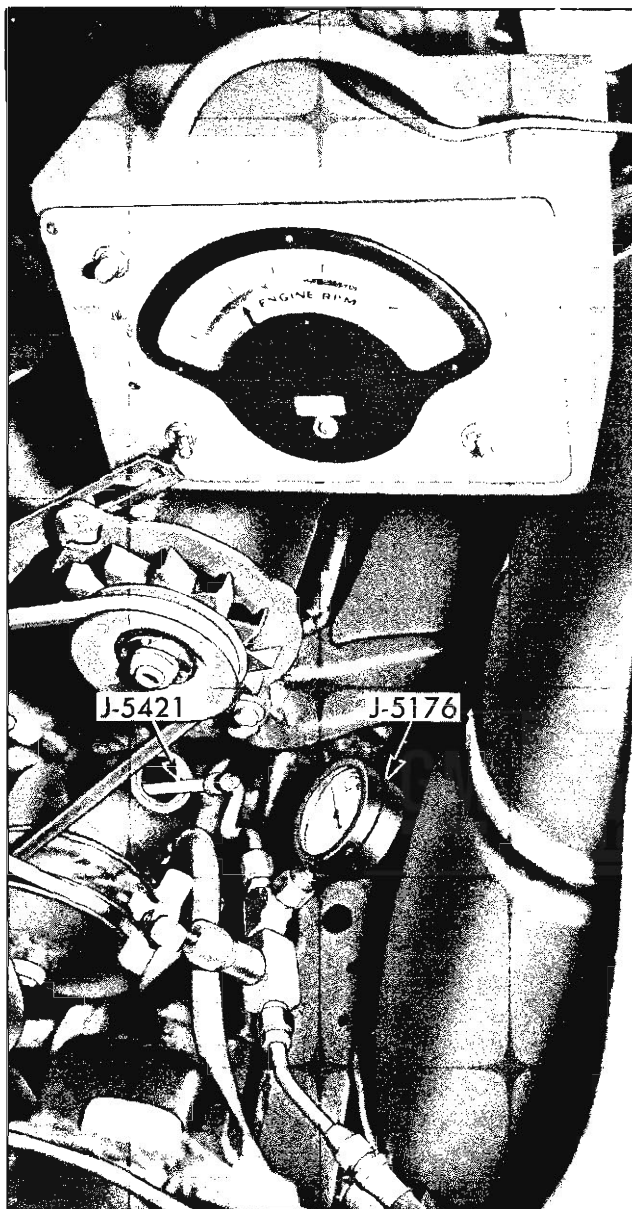

Fig. 43—Power Steering Diagnosis
- A. With engine not running, disconnect flexible pressure line from steel pressure line of pump and install Tool J-5176 as shown in Figure 43. Gauge must be between shut-off valve and pump. Shut-off valve must be open.